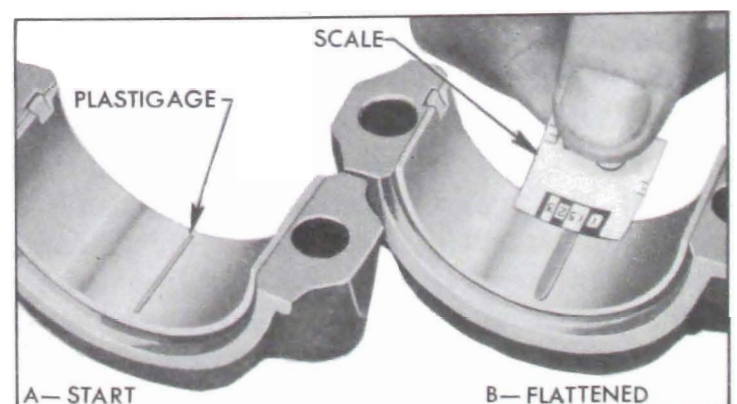

Figure 2-29—Checking Bearing Clearance With Plastigage
2. Place a piece of Plastigage lengthwise along the bottom center of the lower bearing shell (fig. 2-29, view A), then install cap with shell and tighten bolt nuts to 40-45 ft. lbs. torque. NOTE: *The rib on edge of cap and the conical boss on web of rod must be toward rear of engine on all rods in right bank or toward front of engine in left bank.*
5. Using the scale printed on the Plastigage envelope, measure the flattened Plastigage at its widest point. The number within the graduation which most closely corresponds to the width of Plastigage indicates the bearing clearance in thousandths of an inch. See figure 2-29, view B.